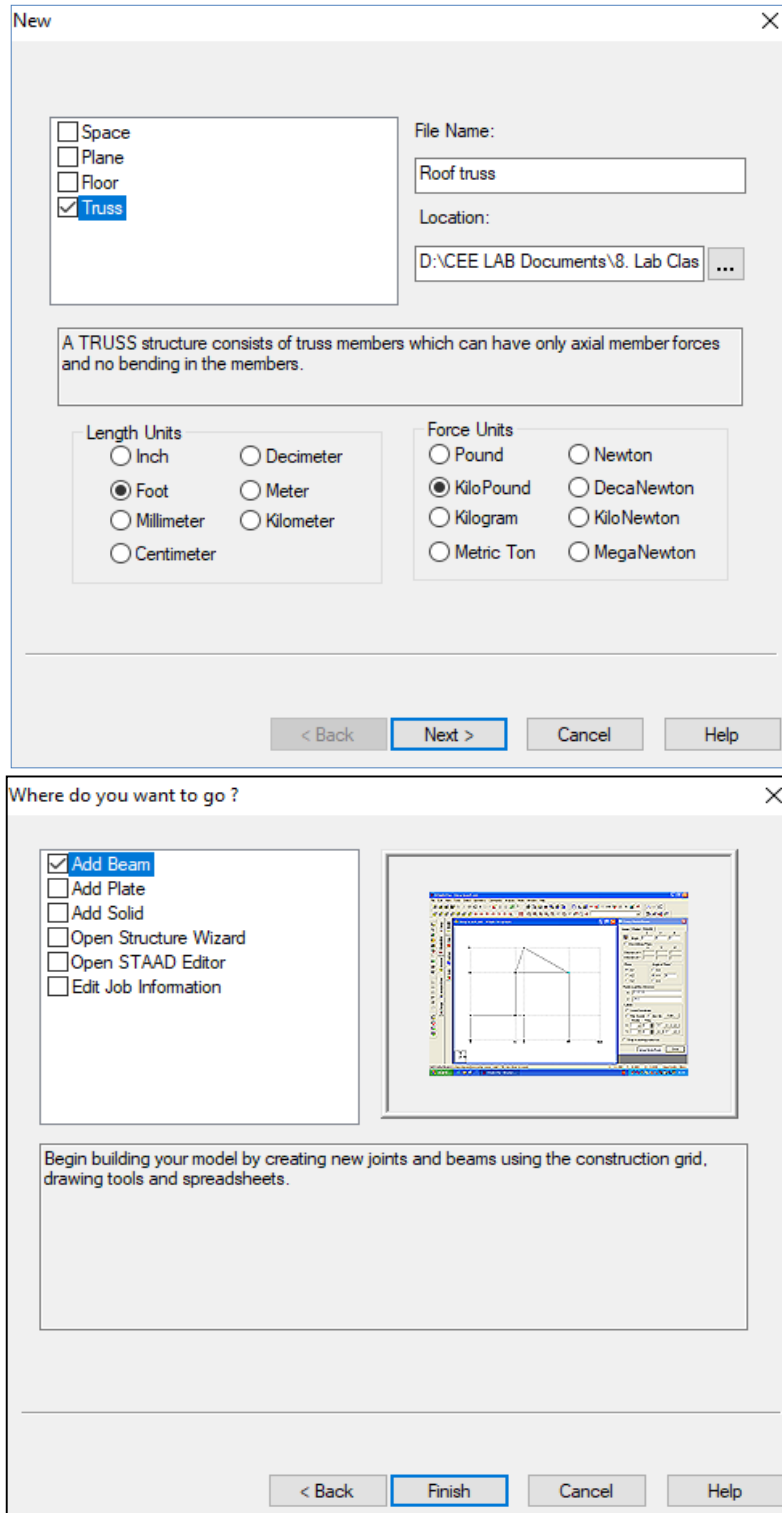

Fig: 4.19
- 1.1 Open STAAD Pro. software → File → New → Click on Truss → Write the File Name and select Location → Length Units = Foot, Force Units = Kilo Pound → Next → Add Beam → Finish. (Fig: 4.19)